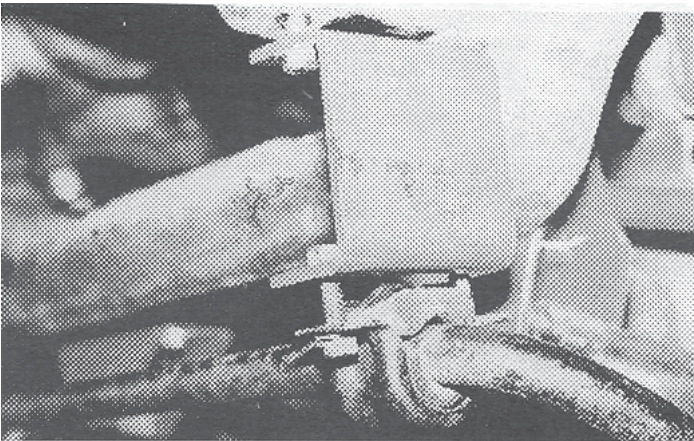

Fig. 47
46. Install sway bar extension brackets "SBD" to frame utilizing 3/8" x 1-1/4" bolts, washers, and nuts. **Do not tighten.** Install sway bar/anchors to A-arms. Install bar to "SBD". **Fig. 47.** Tighten all fasteners to specification.